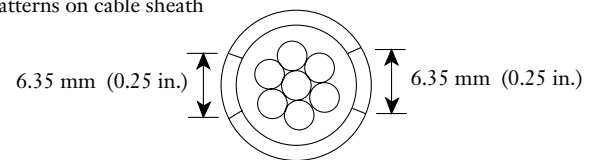

Figure 8
5.11 Make the same slice pattern on the opposite side of the cable sheath (Figure 8).